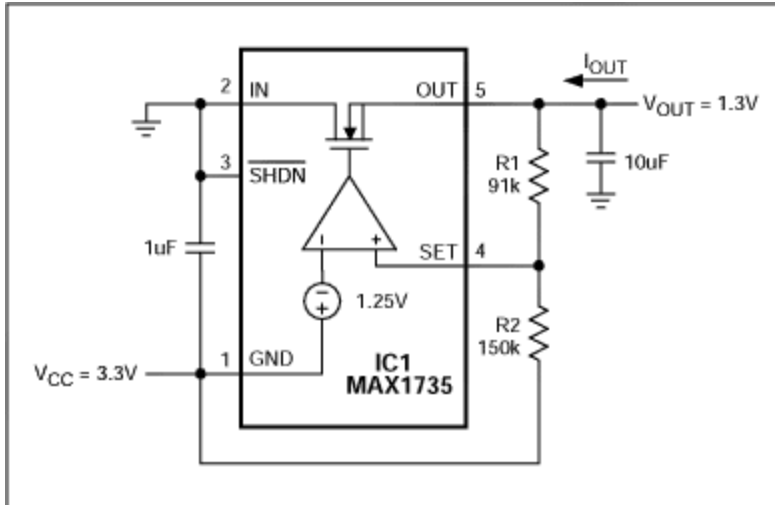

Figure 1. The connections shown enable a negative-output LDO (with its inherent current-sinking ability) to generate a positive output voltage.
**Figure 1** shows a current-sinking negative LDO modified for positive-voltage operation. The GND pin connects to  $V_{CC}$ , and IN connects to ground. Those connections allow the negative LDO to operate as a positive-voltage sink in which the voltage at  $V_{SET}$  equals  $V_{CC} - 1.25V$ :
Figure 2. To operate the Figure 1 circuit at a voltage or current that would otherwise exceed IC1's internal or package power-dissipation ratings, add power-dissipating diodes as shown.